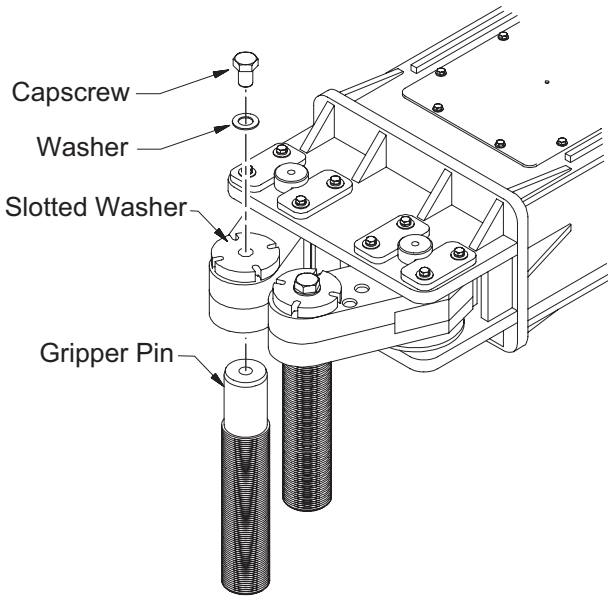

Figure 5-9, Wear Plugs
2. Loosen the capscrew that secures the gripper pin. It may be necessary to heat the bolt head to soften the loctite that secures it. While holding the gripper pin remove the capscrew that holds the gripper pin in place. (Figure 5-9)